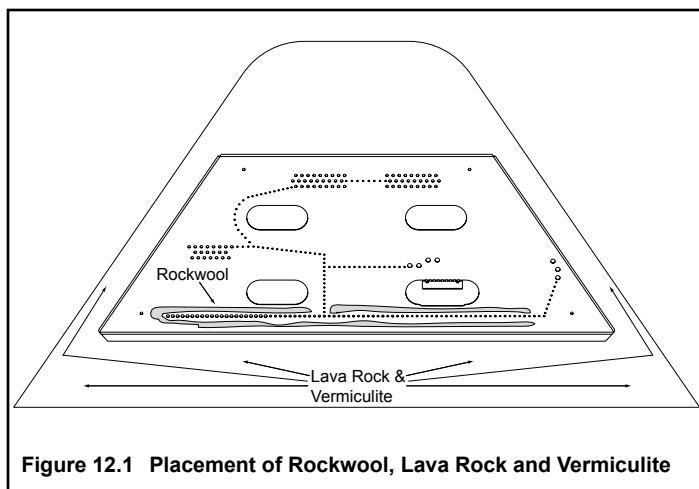

Figure 12.1 Placement of Rockwool, Lava Rock and Vermiculite
See Figure 12.1 for placement location.
- See Figure 12.1